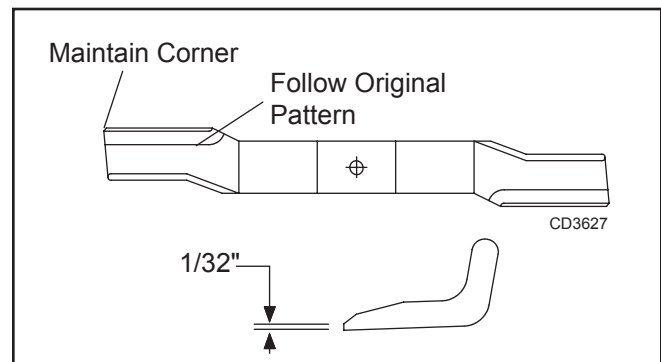

Figure 15.
1. Remove cap screw (4) and washer (3) Figure 15.
2. Remove blade (2)